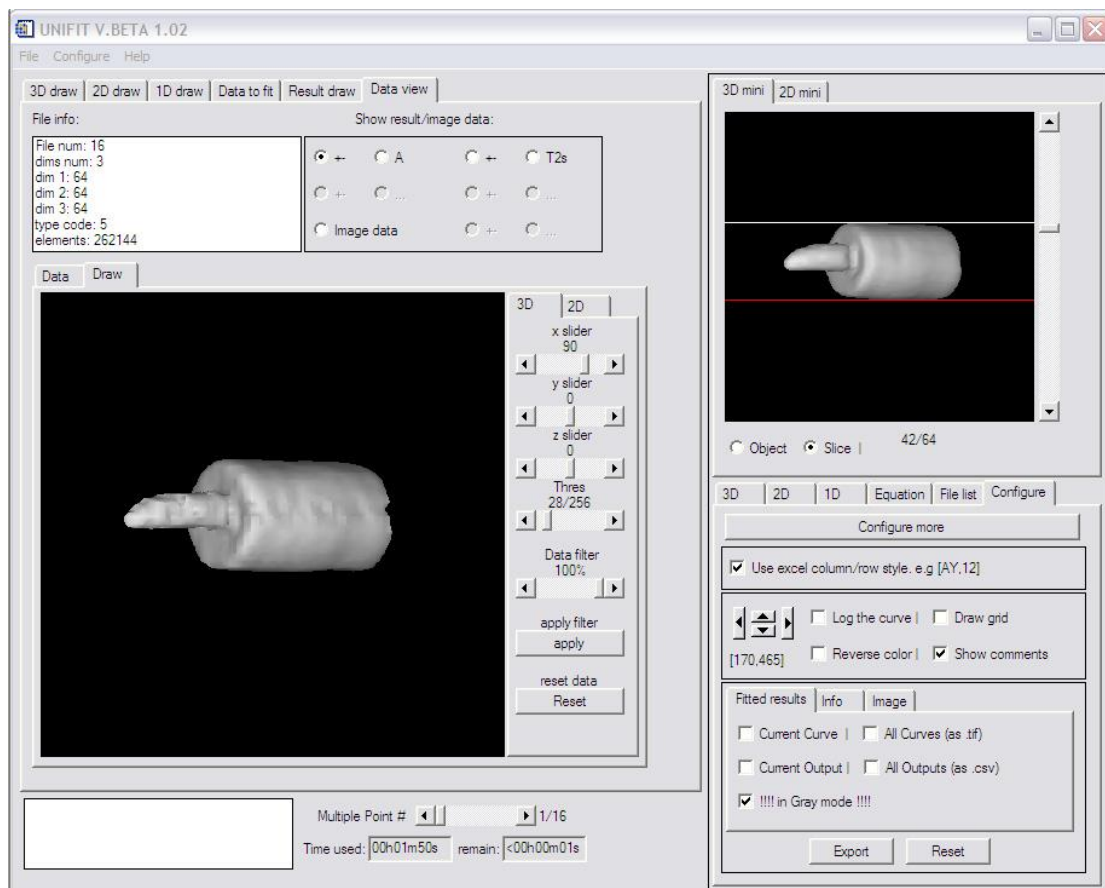

Figure 10:
- **Check boxes of export options [8.9]:** select the images or data the user wishes to save. For details, see the figure 10.